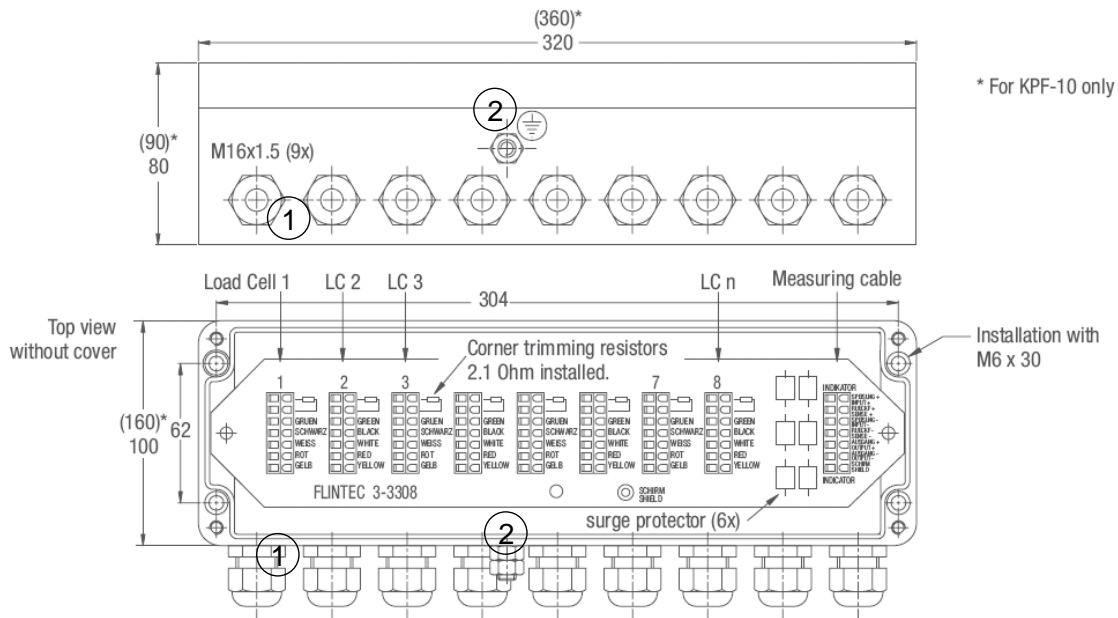

Figure 1: Dimensions in [mm]
The earth screw (see (2) in fig.1) has to be connected to protective earth or you must establish an electrical connection to the weigh modules for potential equalisation. For doing this only the upper nut should be loosened and tightened again. The lower nut (= counter nut) and the earth screw with washer must not be rotated or loosened – the gasket is bonded! If loosened by accident the earth screw must be re-inserted and locked with some Loctite.
Only the cable gland nut (see (1) in fig.1) must be loosened. The bottom part of the cable gland must remain tightened.